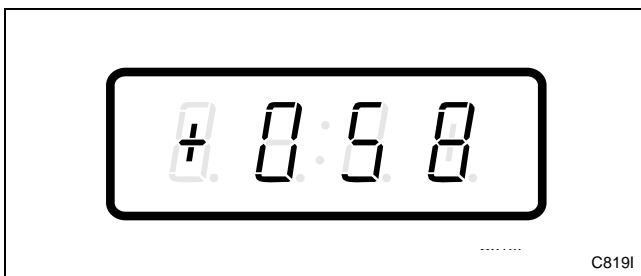

Figure 70
3. Press the DELICATES (+) or the COLD (-) keypad to scroll through the programmable options until “+058” appears in the VFD. Refer to *Figure 70*.